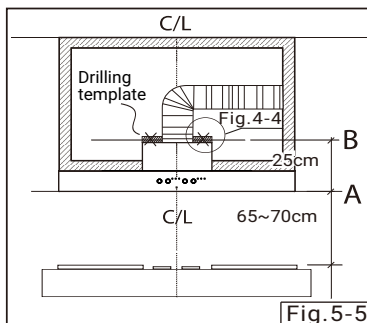

Fig.5-5
(3) Under cabinet installation with wooden panel at back.
- (a) Mark a line "B" (25cm from line "A").(Fig.5-5)